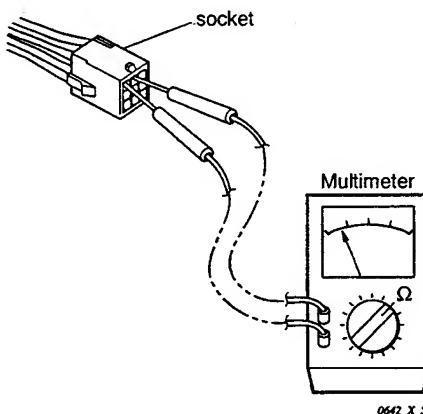

Fig. 10
- Then check continuity among plug's (and/or socket's) terminal as in **Fig. 10**.